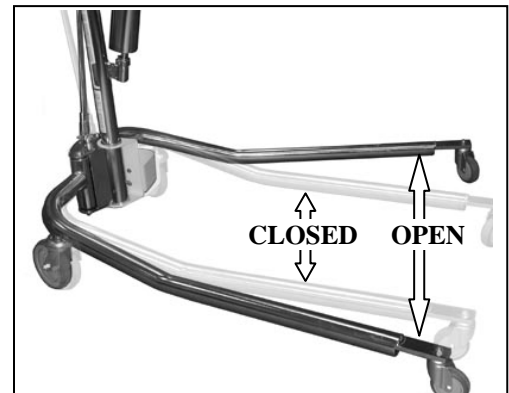

Figure 12: Lifter Legs Opened/Closed
STEP 2: (Figure 12) **SPREAD LEGS ON PATIENT-LIFTER BEFORE ATTEMPTING TO LIFT THE PATIENT!**